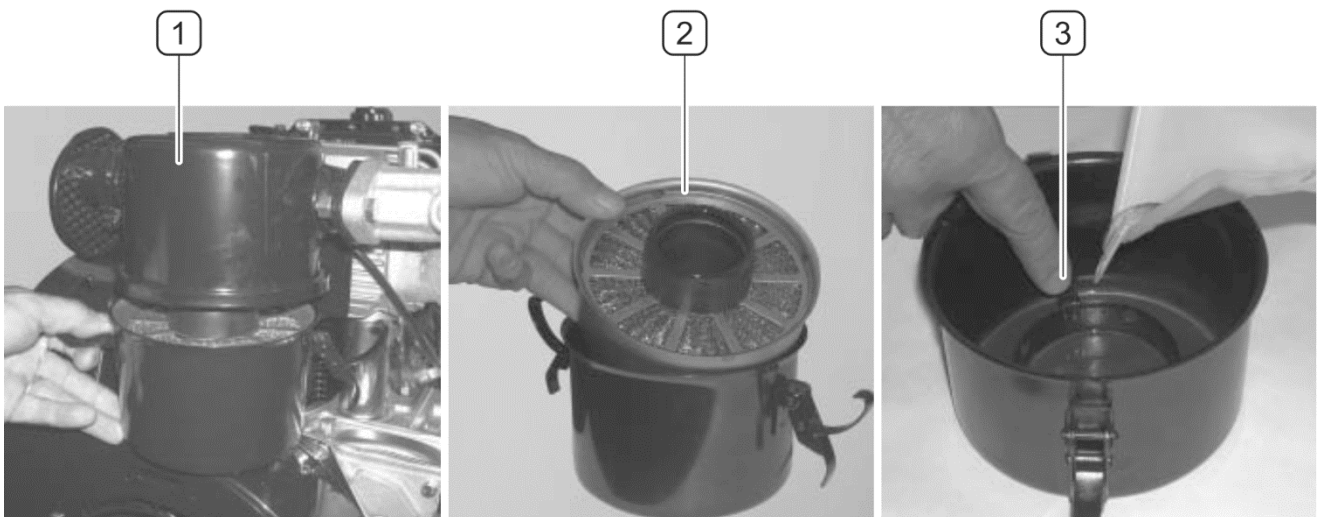

FIGURE 4.4 Checking oil level in air filter
- Open the air filter (1) and pull out the filtering element (2) (FIGURE 4.4).
- Check oil level in the filter. Oil level should reach the marked place (3). If necessary, supplement with engine oil.
- Install the filtering element (2) and close the filter (1).